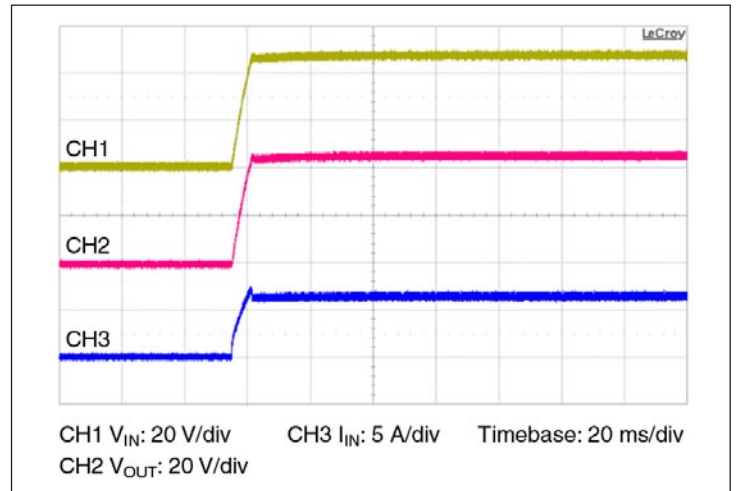

Figure 10 — Start up from application of V_{IN}; VC pre-applied C_{OUT} = 100 μF
- **Normal operation (VC applied prior to V_{IN}):** In this case the controller is active prior to ramping the input. When the input voltage is applied, the VTM module output voltage will track the input (See Figure 10). The inrush current is determined by the input voltage rate of rise and output capacitance. If the VC voltage is removed prior to the input reaching 26 V, the VTM may shut down.